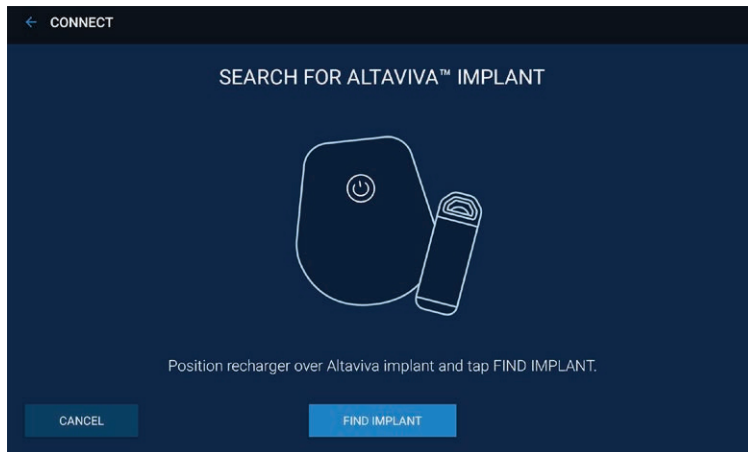

Figure 8. Search for Altaviva Implant screen
4. Tap **FIND IMPLANT** (Figure 8).